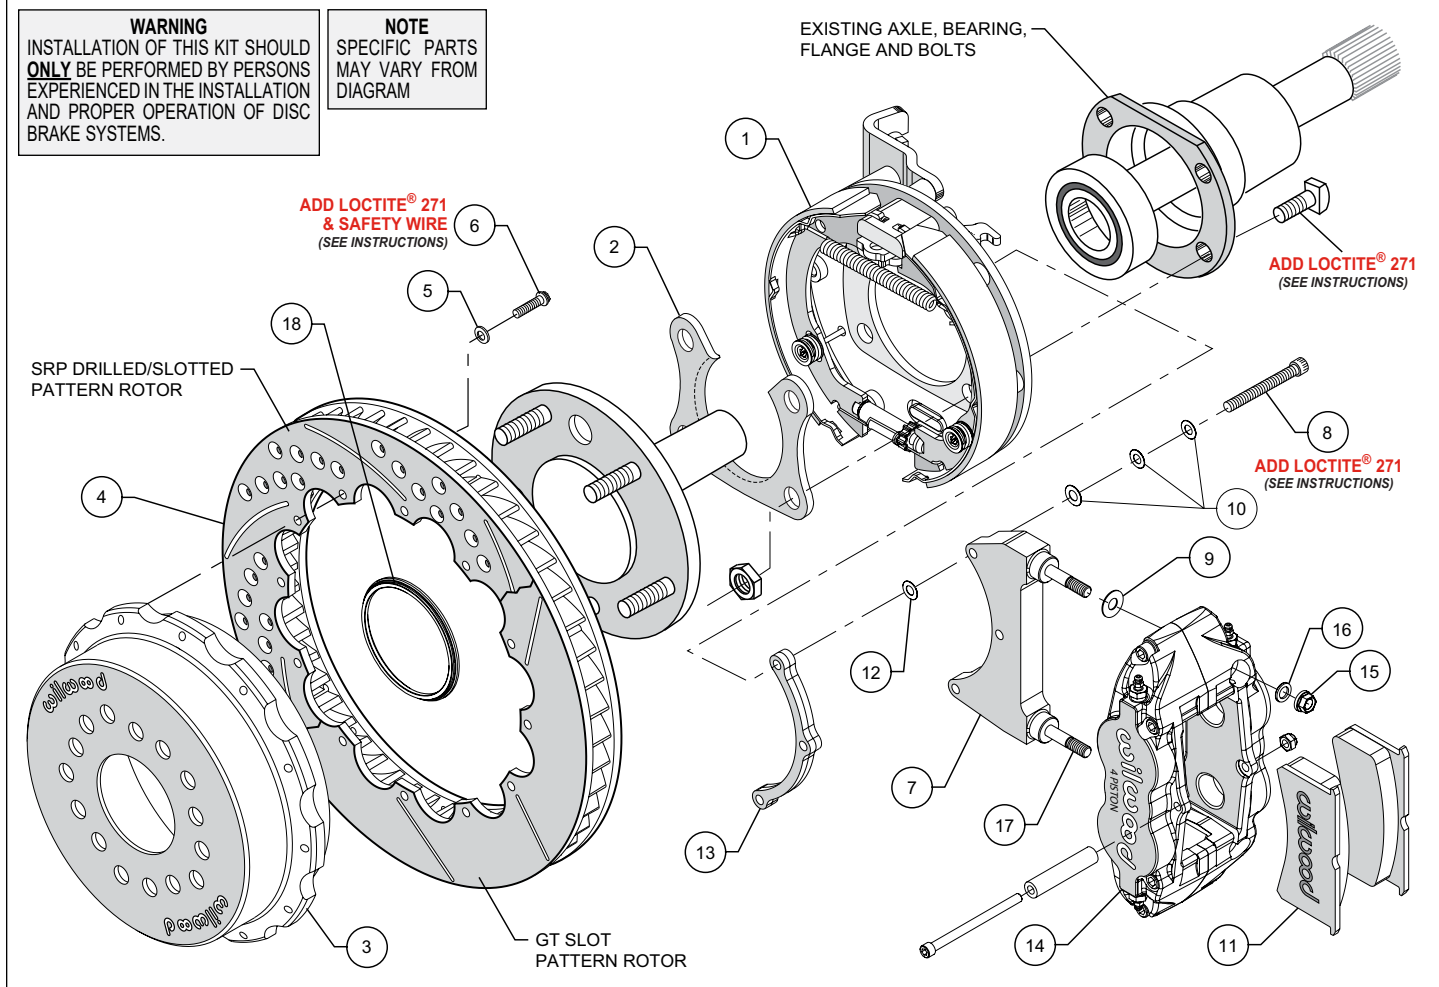

Figure 1. Typical Installation Configuration
NOTE: Numbers in parenthesis refer to the parts list and Figure 1 on the preceding pages.
- Slide the bracket kit assembly (1) onto the housing flange and then insert the axle assembly through the center hole of the bracket assembly (1). Align the bearing retainer (2), as shown in Figures 1 and 4, and secure using the stock Original Equipment Manufacturer (OEM) bolts and nuts. Stock OEM hex nuts that retain the bracket kit assembly (1) and retainer (2) should be on the wheel side of the bracket. Apply red *Loctite*® 271 to the stock OEM bolt threads and torque to OEM specifications. Make sure the bracket kit assembly (1) brake pads are FACING OUTWARD TOWARDS THE WHEEL.
The caliper mounting bracket assembly (7) should be installed first with clean, dry threads on the mounting bolts (8). Install the bracket from the rear side of the bracket kit assembly (1) by sliding bolt (8) through three flat washers (10), bracket (7), shim washer (12) and finally through the spacer (13), see Figure 1. **NOTE:** End of bolt should not exceed inside face of insert. The bracket must tighten squarely against the back side of the bracket kit assembly (1). Inspect for interference from casting irregularities, machining ridges, burrs, etc. Use one thin shim (12) between the bracket (7) and spacer (13) during initial trial fitting.